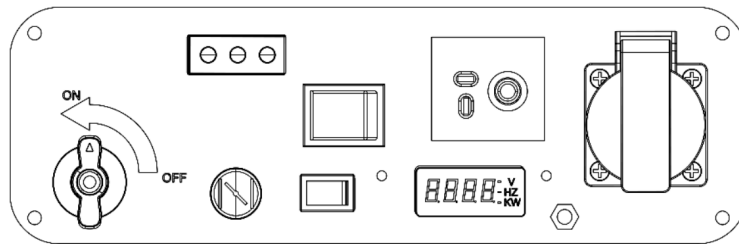

Figure 6. Fuel valve knob in the state of open.
4.1 Open the fuel valve, see figure 6.